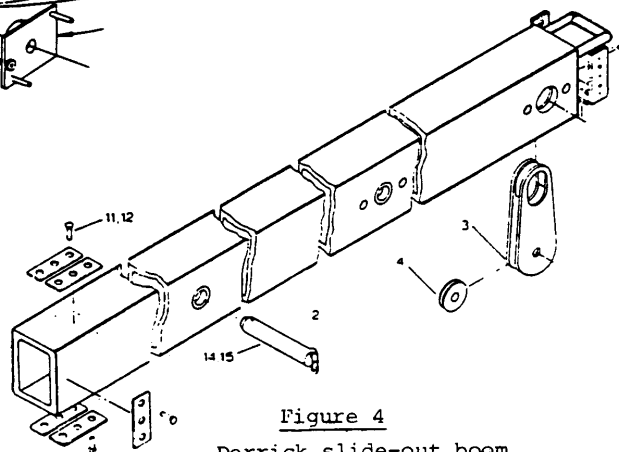

Figure 4
2. Derrick trucks with slide-out glass booms were originally equipped with a steel handle (ref. Fig. 4). This handle can serve as a grounding stirrup. If handle is missing or damaged, it is to be repaired or replaced.